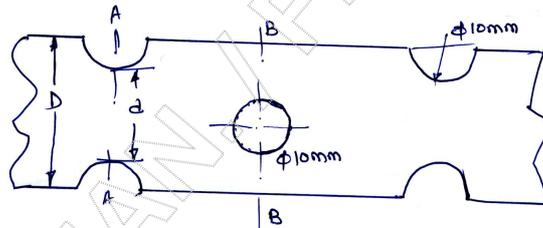

Fig.Q1(c)
- The flat bar shown in Fig.Q1(c), is subjected to a load of 10 kN in tension. Determine the thickness of the flat, if the maximum stress is limited to  $200 \text{ N/mm}^2$ .  $D = 200\text{mm}$ .